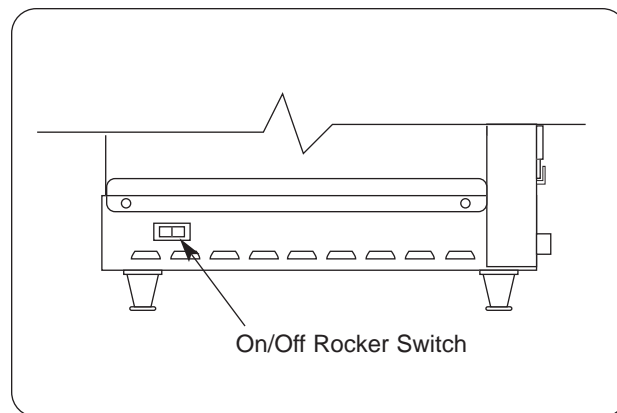

Figure 9. On/Off Rocker Switch
2. Place the On/Off rocker switch, located on the right side of the unit, in the ON position. (See Figure 9.) The halogen lights will glow at this time.